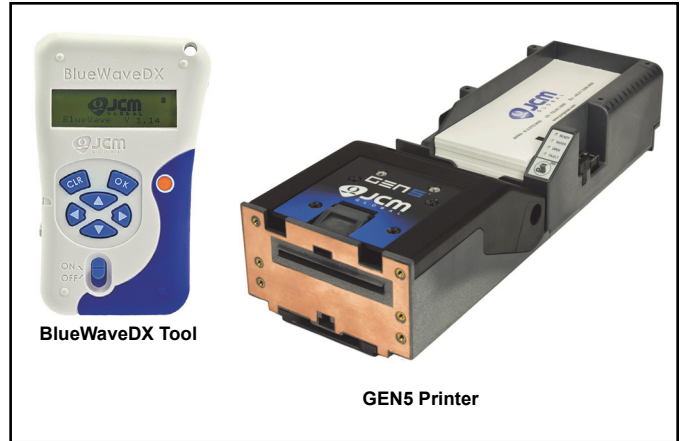

Figure 2: BlueWaveDX Tool and GEN5 Printer
**Answer:** JCM Online Training Course offerings continue to evolve and expand. The latest JCM Online Training Courses include the GEN5™ Printer Training Course and the BlueWave™ DX Tool Training Course (**Figure 2**).